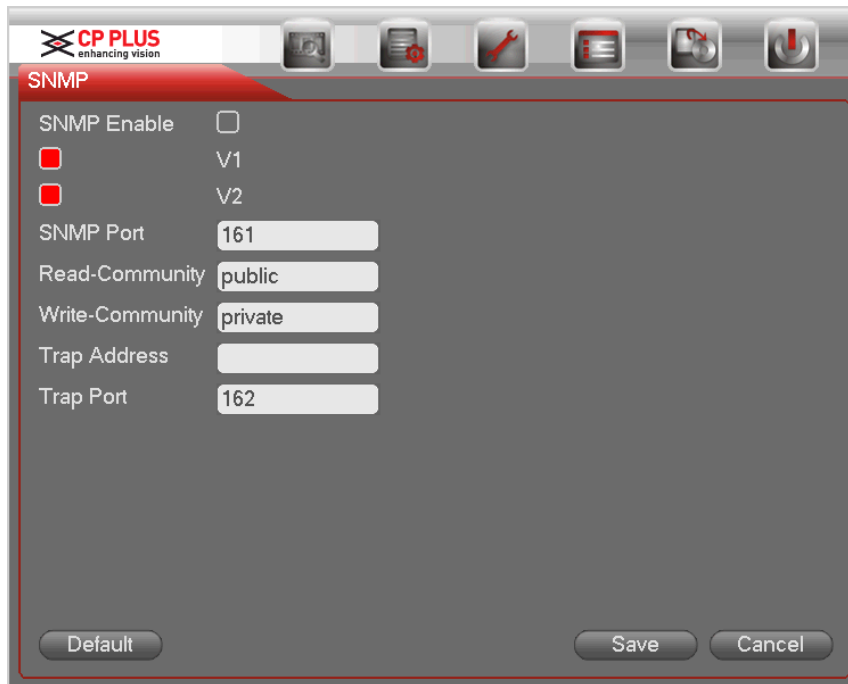

Figure 2-58
SNMP is an abbreviation of Simple Network Management Protocol. It provides the basic network management frame of the network management system. The SNMP widely used in many environments. It is used in many network device, software and system. You can set in the following interface. See Figure 2-58.
- In Figure 2-58, check the box to enable the SNMP function. Input the IP address of the PC than is running the software in the Trap address. You can use default setup for the rest items.